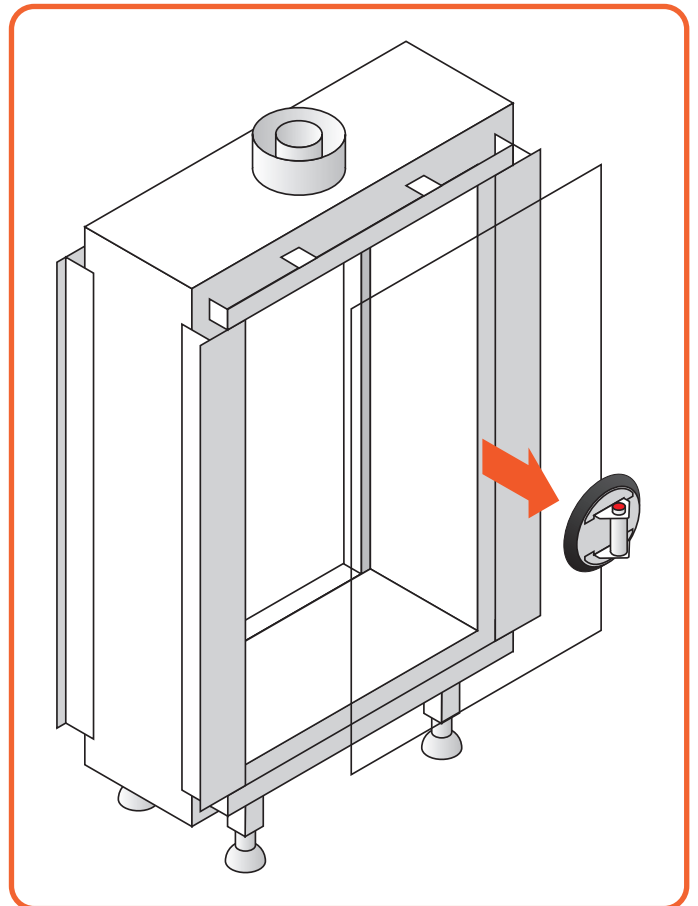

Figure 11.13 - Remove glass
- Lift the glass out of the lower glass rail and tilt it out through the opening, as seen in **Figure 11.13**.